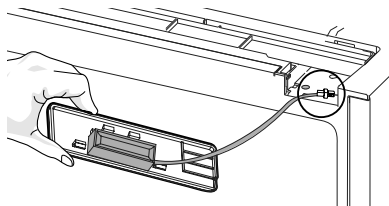

Figure 5
- 6 Unplug reed switch harness (see Figure 5) and set aside.